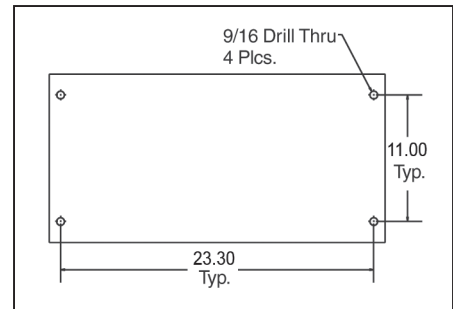

Figure 2: Mounting holes
1. Obtain a sturdy, level work surface capable of supporting at least 600 pounds which is 34"-38" high and located in a well-illuminated area. The work surface area must be able to fit the mounting hole pattern shown in Figure 2.
5. Secure the unit to the work surface using the mounting hole pattern shown in Figure 2. Four 9/16" holes are provided in the crimper base for this purpose.